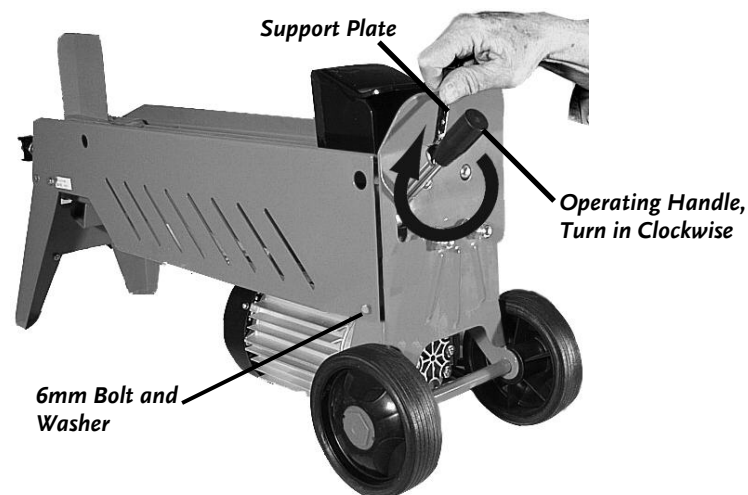

Figure 4
7. Secure the Wheel Frame Assembly to the main frame with the two (2) 6mm Bolts and Flat Washers (**Figure 4**) using the 10mm wrench.
8. Screw the Operating Handle (found in the plastic bag) clockwise onto the threaded shaft protruding from the Support Plate at the rear of the machine and tighten it securely using the 10mm wrench (**Figure 4**).